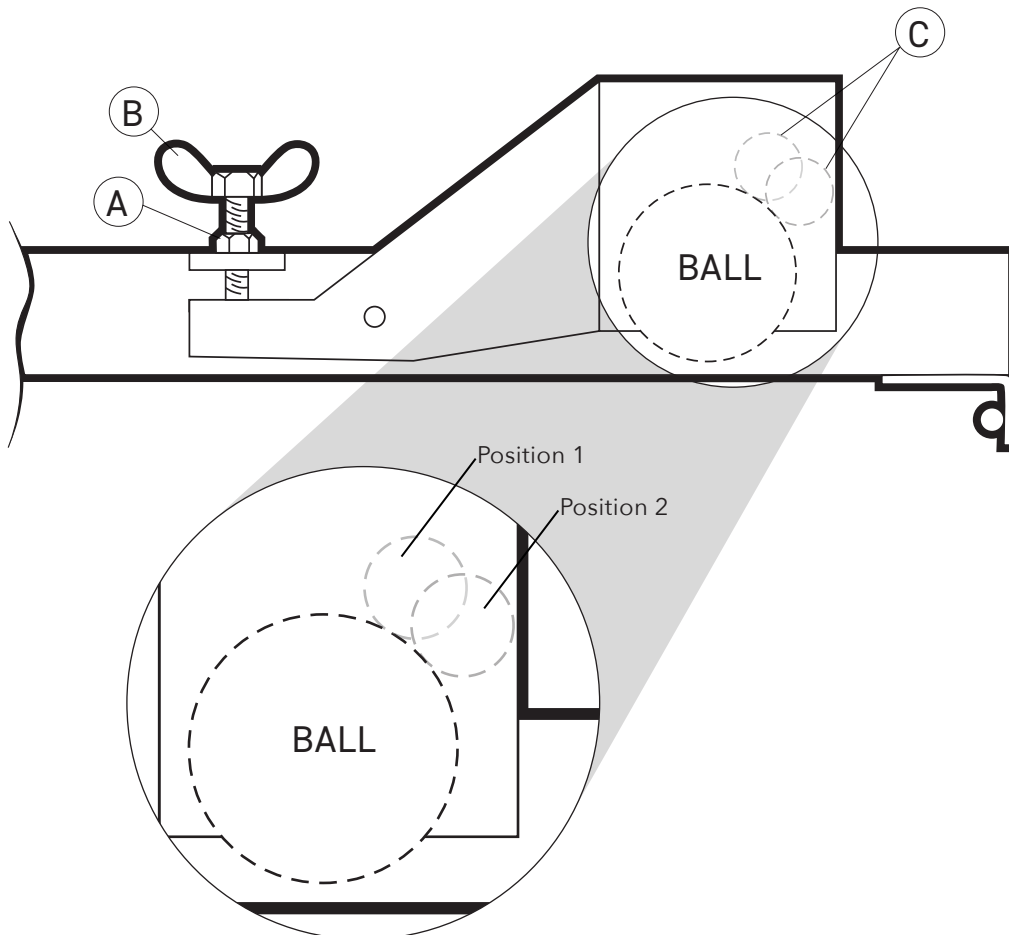

Figure 7
To shorten the interval between pitches, loosen jam nut at "A" Fig. 7. Turn the adjustment bolt "B" Fig. 8, clockwise. After adjustment, tighten jam nut "A."
To lengthen the interval between pitches, loosen jam nut "A" Fig. 7. Turn the adjustment bolts "B" counterclockwise. After adjustment, tighten jam nut "A."
**NOTE:** Notice how changing the space at "C" Fig. 7 will change the distance that the roller must turn to release the ball. This changes the time between pitches.